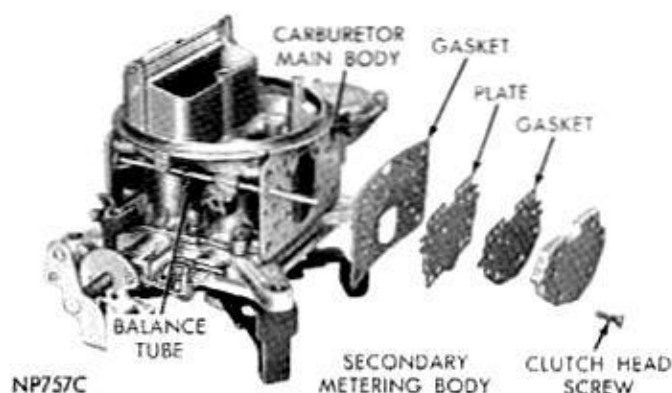
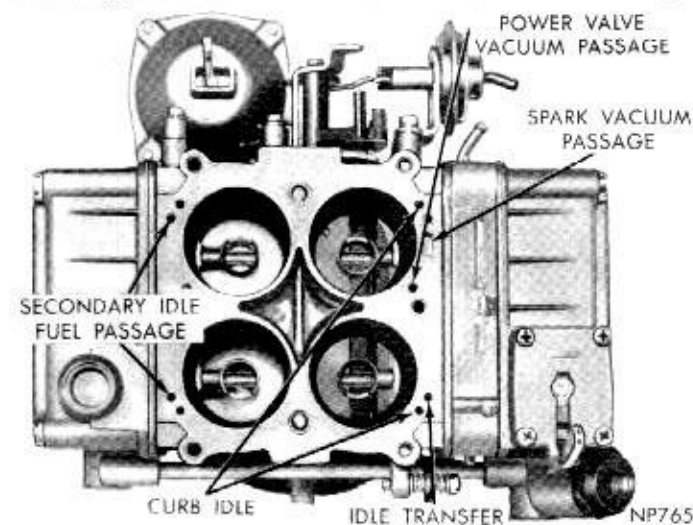

Fig. 4—Secondary Metering Body, Plate and Gaskets
Fig. 13—Main Body Identification (Bottom View)
(1) Place a new gasket on throttle body, then lower main body (Fig. 13) down on throttle body, aligning roll pin guides with openings in main body. Be sure primary bores of throttle body are on the same side as primary venturi.
(2) Holding assembly together, invert assembly and install attaching screws. Tighten securely.
(3) Install balance tube into main body and install new "O" rings and washers at each end. Be sure "O" rings are seated in recesses, followed by washers.
(4) Install a new secondary metering body to main body gasket (Fig. 4) followed by metering body plate, plate gasket and body. Install clutch head screws and tighten securely. (Be sure the main metering restriction ports are at the bottom).